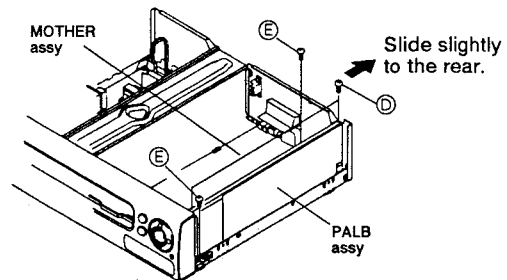

Fig. 9
- (2) Remove the two screws (D) holding the PCB holder. Remove the two screws (E) fastening the MOTHER assy. (Fig. 9)
- The ► mark is printed near the (C) and (E) screws.